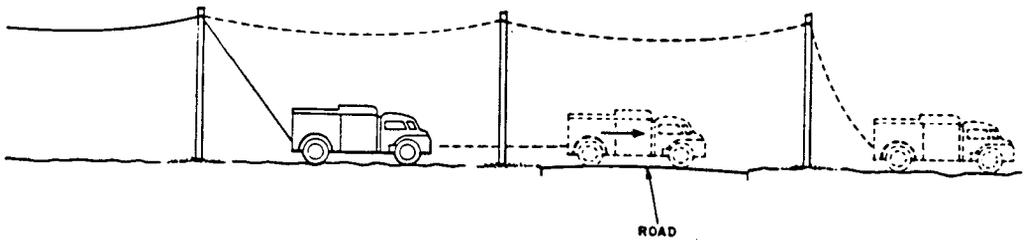

Fig. 4 — Placing Strand at Road Crossing
4.13 At road crossings, stop traffic on the road being crossed and pay out strand past the first pole on the other side as shown in Fig. 4. Raise strand into position on both crossing poles and tension and snub it before allowing traffic to proceed.